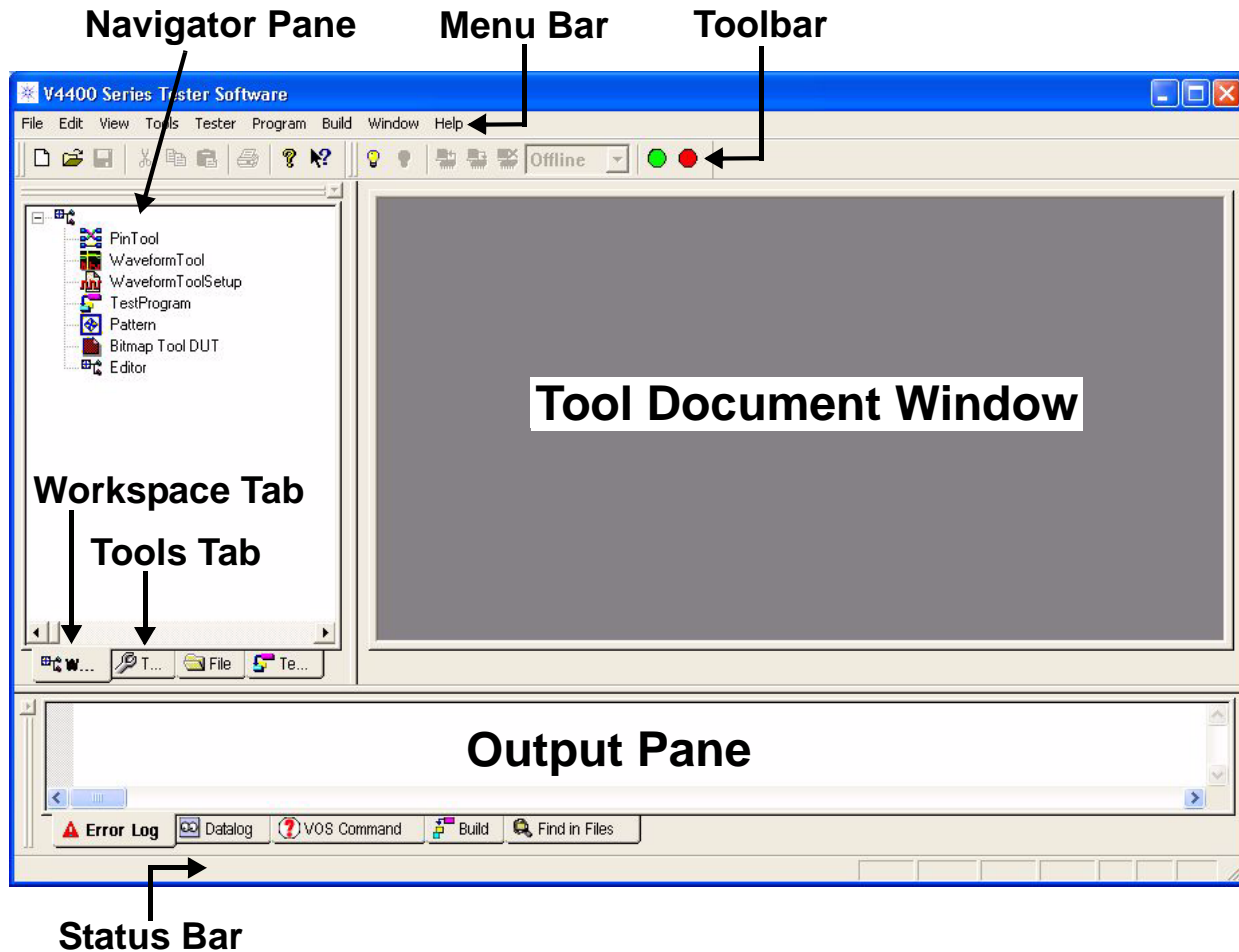

Figure 5-43. V4400 Series Tester Software IDE Main Window
- 1** Selecting  > All Programs > Versatest Test System Software > Integrated Development Environment displays the default V4400 Series Tester Software main window that contains the Integrated Development Environment or IDE (similar to Figure 5-43). The Menu bar and Toolbar are context sensitive and change for the selected active tool or document. The menus and Toolbar show and enable only the commands and buttons that are relevant to the tool or document you have selected.